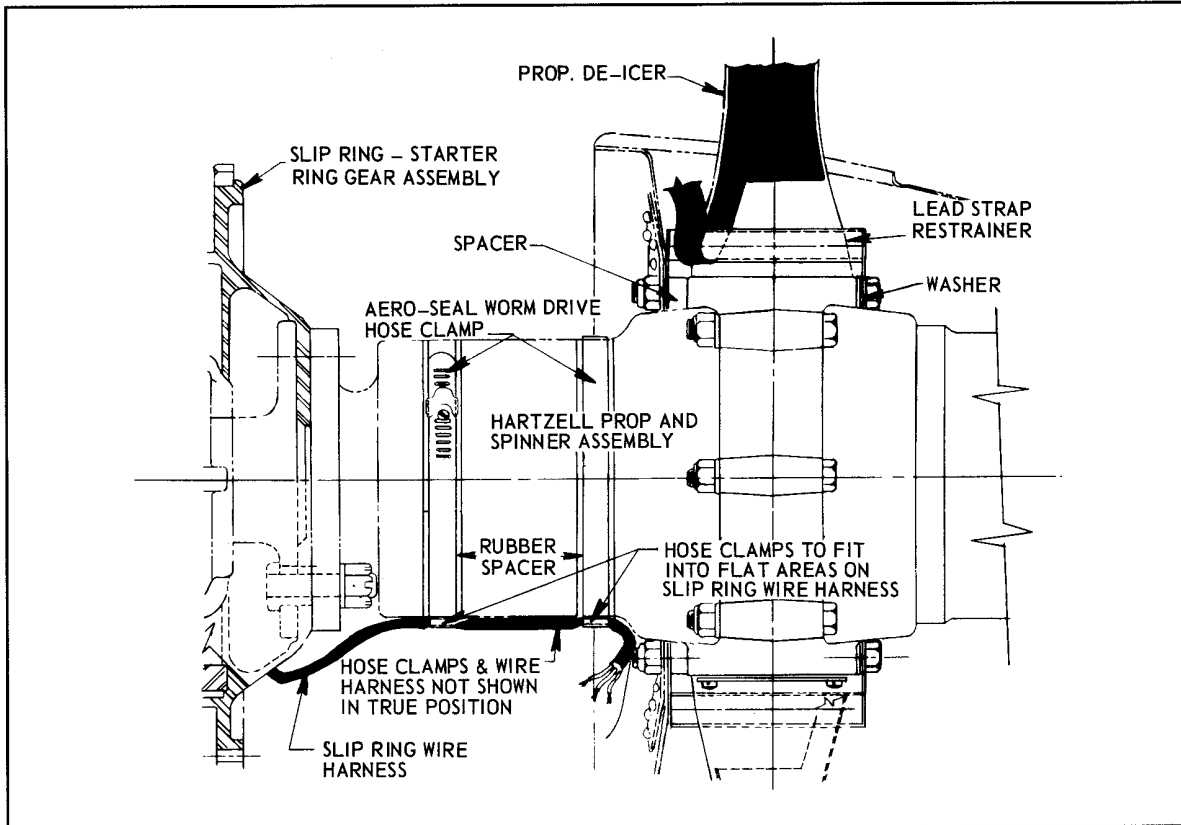
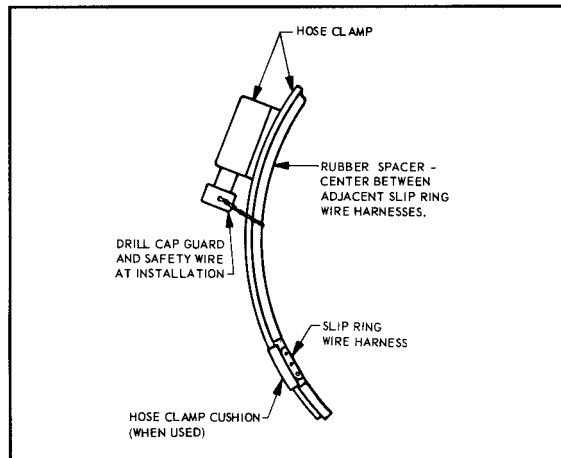

Figure 34 - Slip Ring/Starter Ring Gear Assembly Installation
Figure 35 - Hose Clamps
- d. If there is no adapter ring, there is a hub extension, and the slip ring/starter ring gear assembly is installed between the crankshaft flange and hub extension (**Figure 34, page 29**). Secure hub extension and install prop per PMM or AMM.
If there is a hub extension with slip ring or wire harness leads routed along the hub, hose clamps may be used to hold wiring against hub (**Figure 34, page 29**). If so, drill cap guards on hose clamps with No. 56 drill as shown in **Figure 35, this page**. Drill both sides of cap guards in line with and near screw slot base. Position clamps, spacers and cushions as applicable per AMM. Position worm screw housings 180° opposite each other on hub extension. Do not place wire harness in tension when tightening clamps. Torque worm screws to 35-55 inch-lbs. And safety wire.